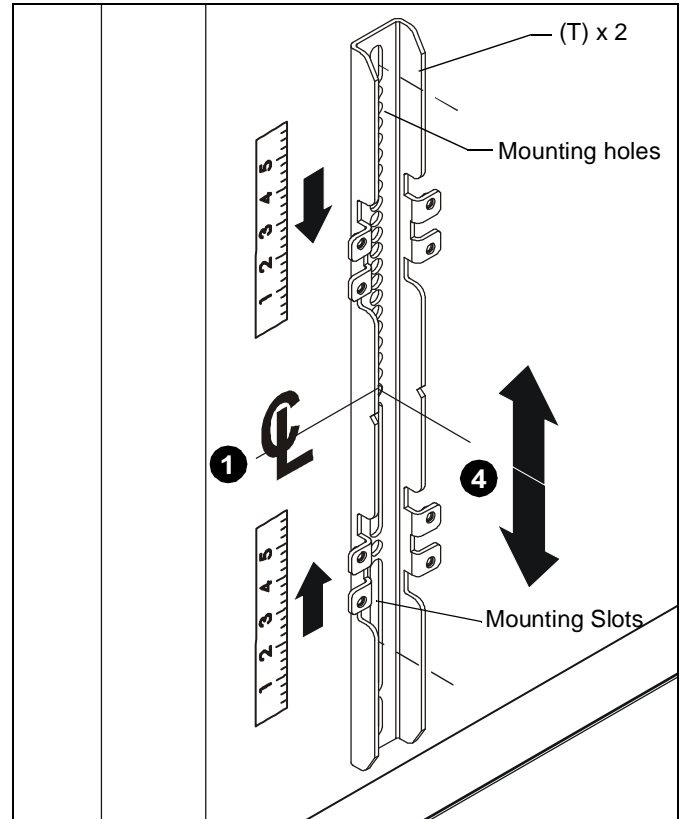
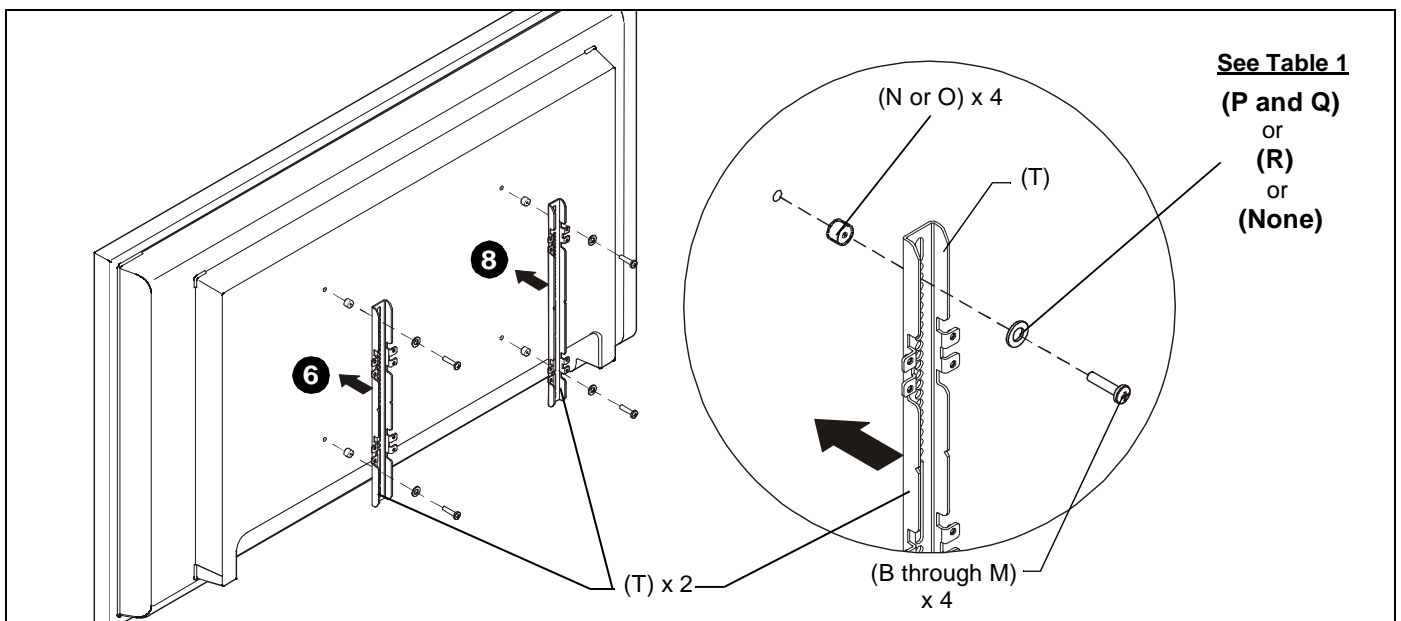

Figure 1
Figure 2
1. Determine and mark the vertical center position between the Left side Upper and Lower mounting holes in display. (See Figure 1)
2. Determine and mark the vertical center position between the Right side Upper and Lower mounting holes in display. (See Figure 1)
3. Orient vertical mounting bracket (T) so that mounting holes are on top and mounting slots are on bottom. (See Figure 1)
4. Align mounting holes in vertical mounting bracket (T) with upper and lower mounting holes in display.
5. Adjust vertical mounting bracket (T) position until mark made in Step 1 aligns with center mark in vertical mounting bracket (T).
6. Secure Left side vertical mounting bracket (T) to display using flat washer(s), and Phillips pan head screws (B through M). (See Figure 2)
7. If the display has a recessed mounting surface, protrusions or a power box, a spacer and longer mounting hardware must be placed between the display and vertical mounting bracket (T). (See Figure 2)